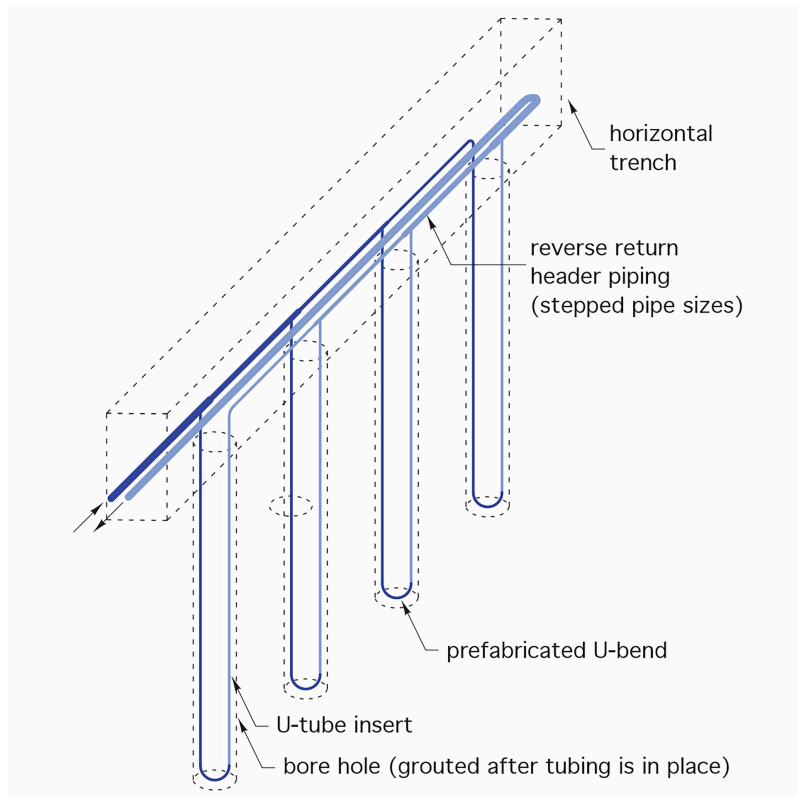

Figure 8 Reverse-return manifold piping
- Figure 8 Open-loop well system © Caleffi Hydronic Solutions. Used with permission.
The supply and return tube from each borehole are then connected together into supply and return manifolds or “headers”, in much the same fashion as in a hydronic heating system. A reverse-return piping configuration, as shown in Figure 8 below, ensures equal flow through each borehole.